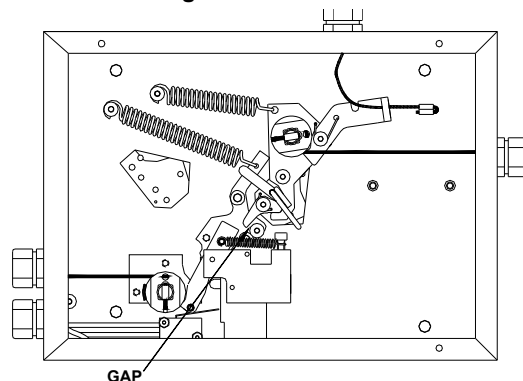

Figure B-11.
4. Remove hex wrench. **Note** gap between Catch and Detection Arm. The detection line can now be released without actuating the gas valve or micro switches. See **Figure B-11**